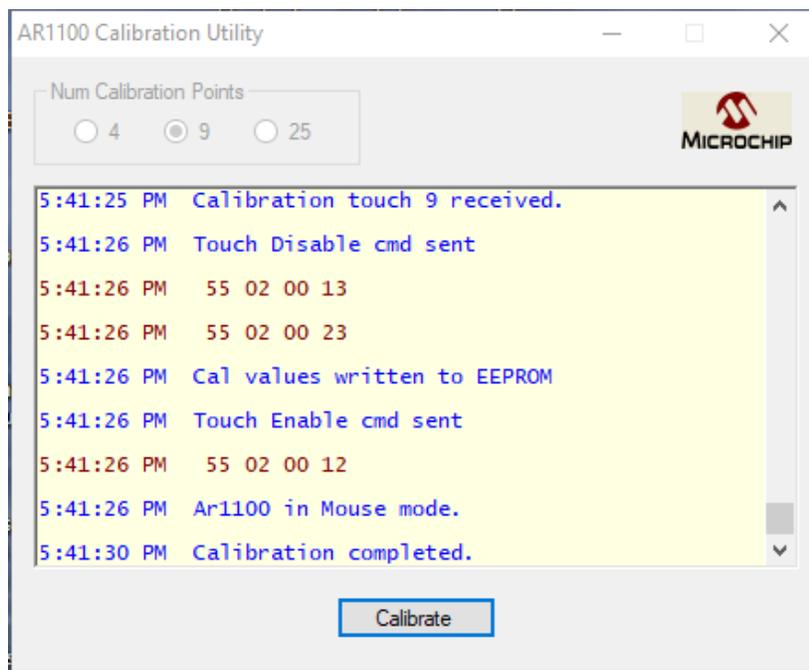

Figure 17: Calibration Completed Window
- Press again when the fiducial mark moves to the next location. Repeat until all calibration points have been entered and the finishing window shown in Figure 17 appears.